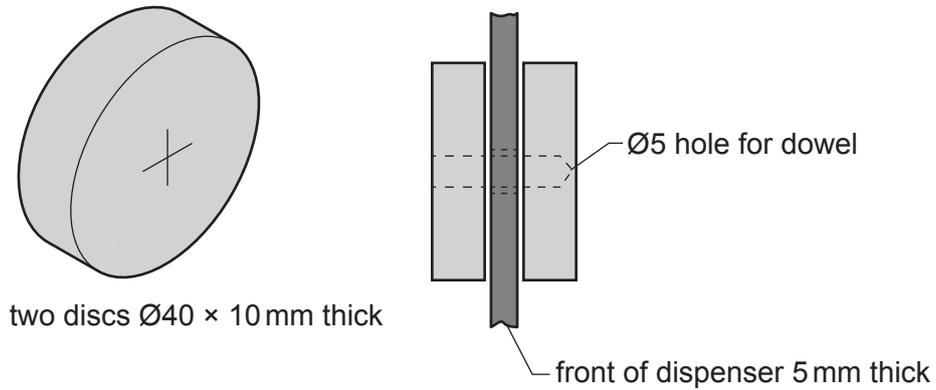

Fig. 11.2
- (d) Fig. 11.2 shows details of the handle. Two discs are needed to make the handle to turn the mechanism. One disc has a Ø5 hole drilled through it. The second disc has a 'blind' hole 8 mm deep.